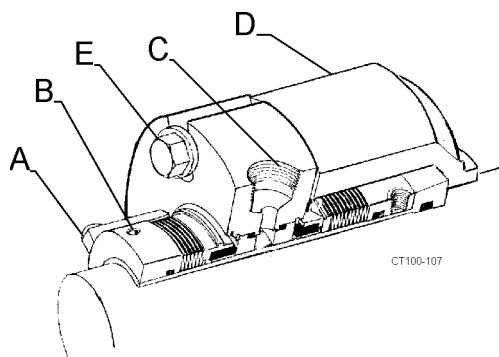

Figure 62 - Typical Cartridge Seal
NOTE: Be sure the flushing ports in the cartridge seal are positioned with the inlet toward the bottom and the outlet toward the top. (Figure 62, item C).
14. Hold the backplate in place and tighten the cartridge seal into the cartridge adapter by tightening the cap screws (Figure 62, item E).
Table 15: Call Outs For Figure 62
16. Tighten the two set screws to the shaft. (Figure 62, item B).
17. Remove the lugs/spacers. (Figure 62, item A).